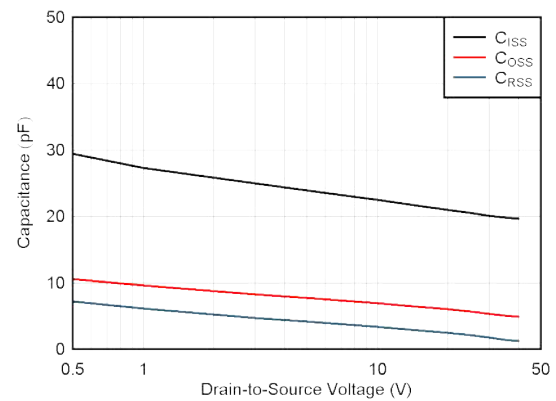

Figure 6-12. Input, Output, and Reverse Transfer Capacitance vs Drain-to-Source Voltage
Most previous-generation JFET devices featured only three pins (gate, source, and drain). For these devices, the gate pin is in the same physical location as the VCL pin on the JFE150. To test the JFE150 in a three-pin socket, short pin 2 of the JFE150 (VCL) to pin 3 (G). When the devices are connected with pin 2 shorted to pin 3, the diode from VCL is shorted out and cannot provide any clamping protection. The input capacitance (C_{ISS}) also increases by 1 pF; see Figure 6-12.